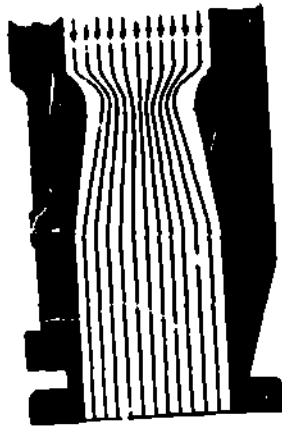

Fig 1-21. Venturi action.
b. Principles of venturi action (fig 1-21). The main job of any carburetor is to supply the right mixture of air and fuel for all engine speeds and load conditions. To understand how the carburetor does this job, it is necessary to understand the principle of a venturi.